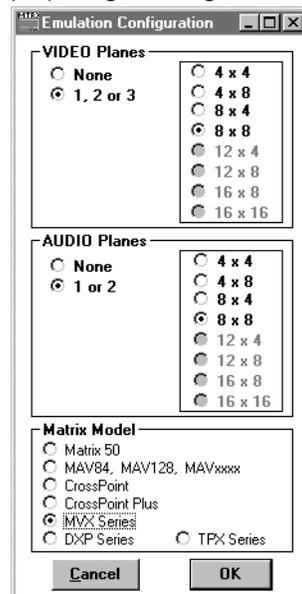

Figure 39. Emulation Mode Configuration
5. Select **1, 2, or 3** as the number of video planes, **1 or 2** as the number of audio planes, the correct matrix size, and **MX Series** as the matrix model for which you are preparing a configuration; and click **OK** (see figure 39).